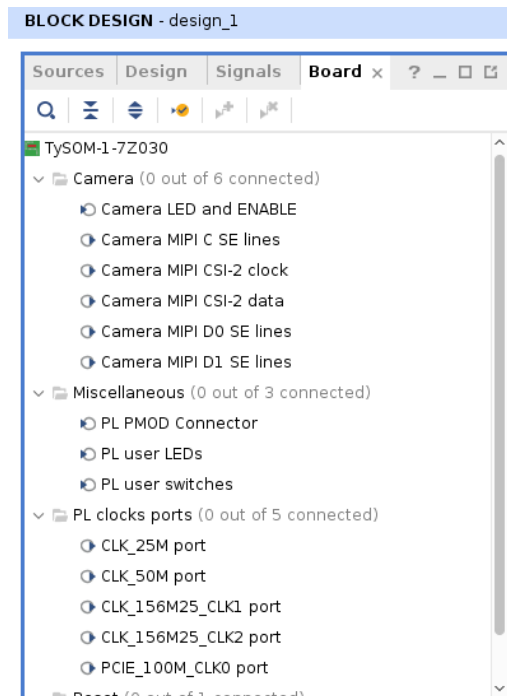

Figure 8: Window with board components.
6. Add customized board components to the design canvas. The components available for selected board are listed in the window **Board**, as shown in the figure 8.